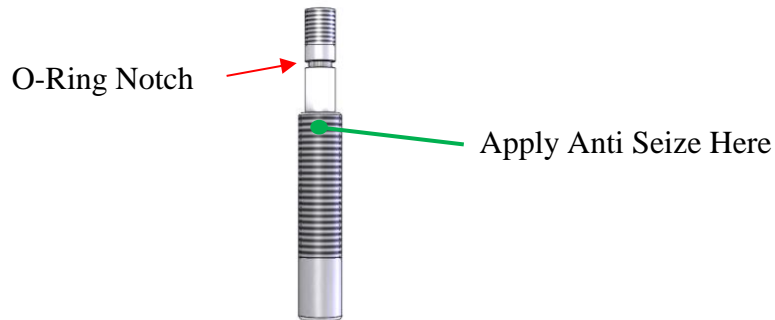

Figure 35: 2" Body Adjustment Screw O-Ring Notch
1. Lightly apply a small amount of anti-seize to the threads of the adjustment screw. See Figure 35.
5. Carefully place the adjustment screw o-ring onto the adjustment screw making sure not to cut the o-ring. The o-ring should reside in a notch below the upper threads of the adjustment screw. See Figure 35.